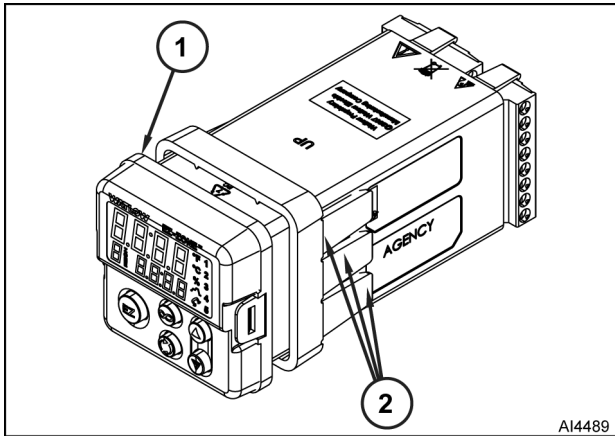

Fig. 56
3. Remove two electrical plugs (2) from rear of PID controller (3).
**NOTE:** Use a 1.5" putty knife or equivalent thin tool underneath each locking tab (2, Fig. 56) to hold teeth away from ridges.
7. Slide mounting collar off PID controller (1).